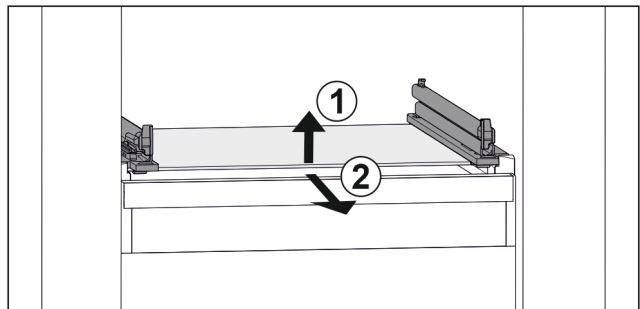

Fig. 71 Example illustration of glass shelf
- ▶ Lift glass shelf at the front. Fig. 71 (1)
- ▶ Take out glass shelf to the front. Fig. 71 (2)